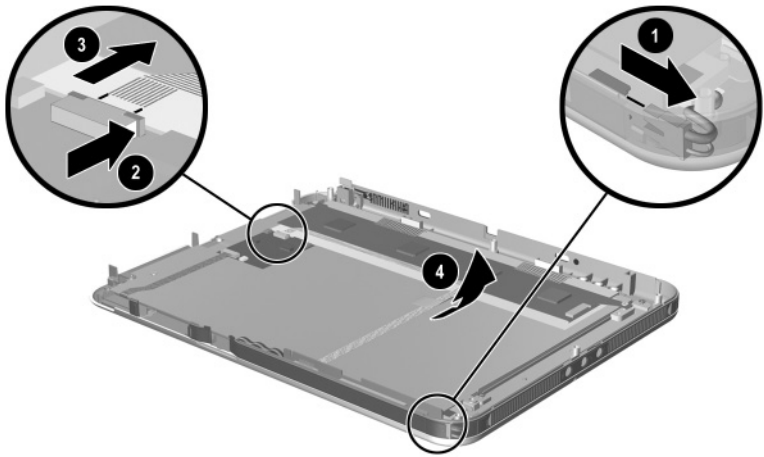

Figure 5-13. Disconnecting the Display Panel Cables
15. Disconnect the inverter board cable ❶ from the inverter board (Figure 5-13).
16. Release the ZIF connector ❷ to which the inverter board cable is attached and disconnect the cable ❸.
17. Remove the tape ❹ that secures the inverter board cable to the back of the display panel.